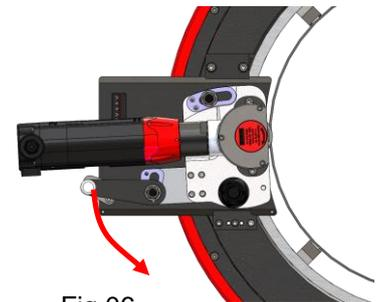

Fig.06
- Release the cutting tool by raising the penetration lever (Fig.06).